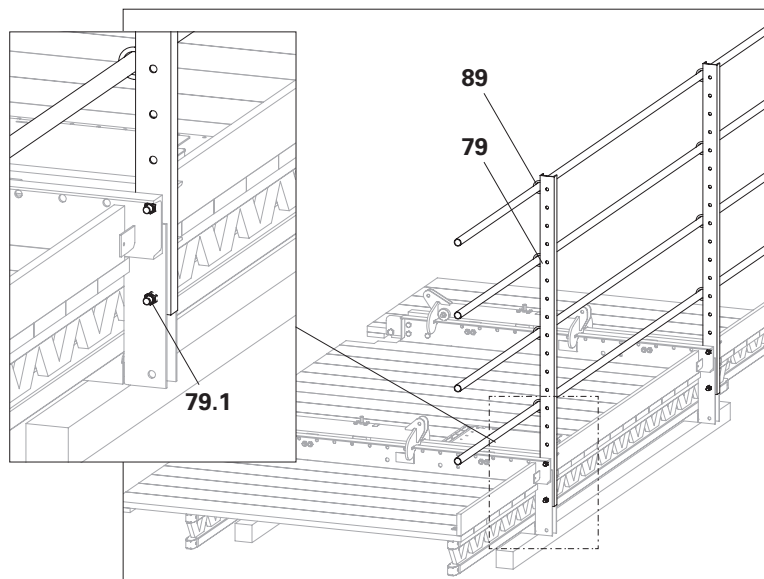

Fig. C2.04
2. Screw the scaffolding tubes \varnothing 48 to the guardrail post with clamp A64 (**89**), see Section "Guardrails" on page 52. (Fig. C2.04)